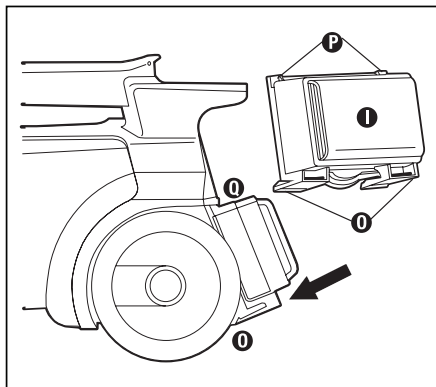

Fig. 14
Step 1: Insert upper filter corner tabs ❷ firmly under rear housing tabs ❸ (Fig. 14).
Step 2: Pivot filter ❶ down until bottom clips ❹ on filter click securely into place on the cleaner (Fig. 14).